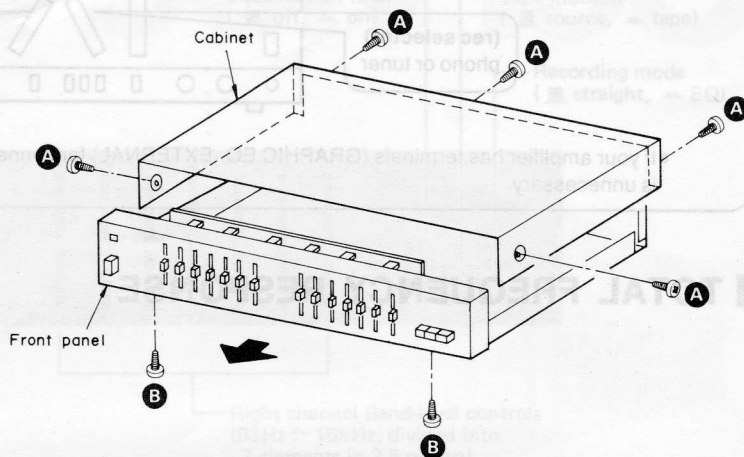

Fig. 1
1. Remove the 2 screws on the side of the cabinet, and 3 screws on the back. [Fig. 1: **A**]
3. Remove the 2 screws which connect the chassis and the front panel. [Fig. 1: **B**]
5. Remove the front panel in the direction of the arrow [Fig. 1].